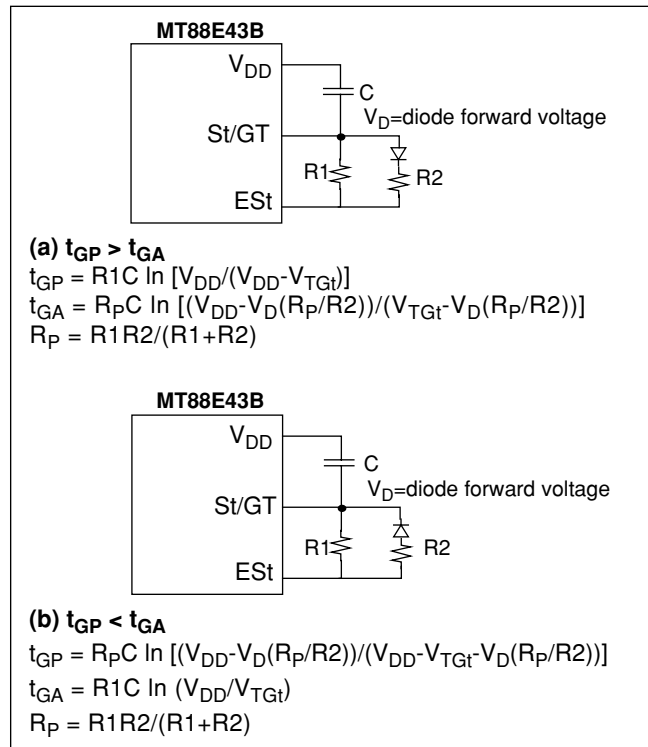
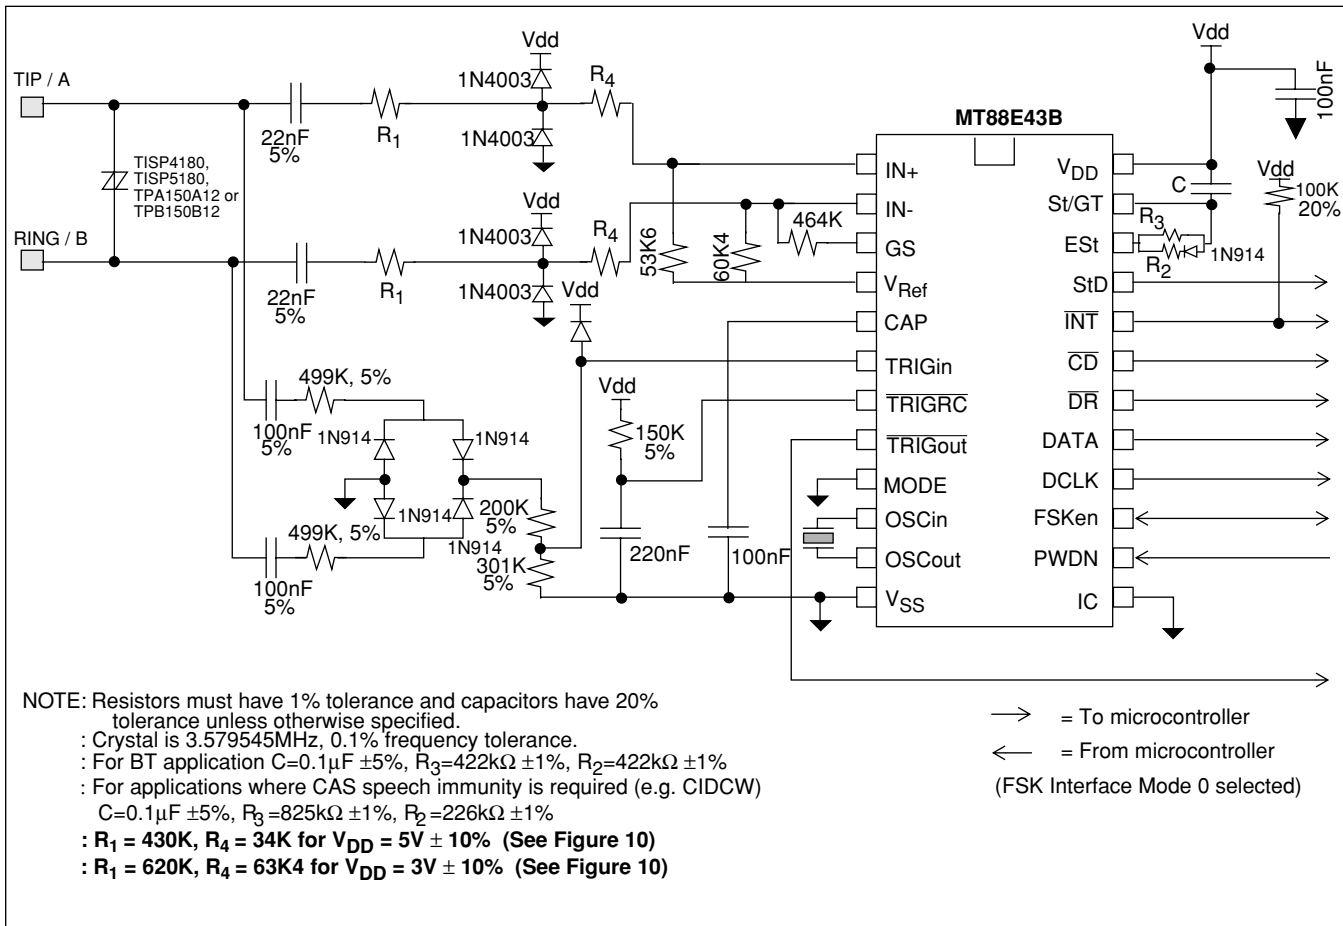
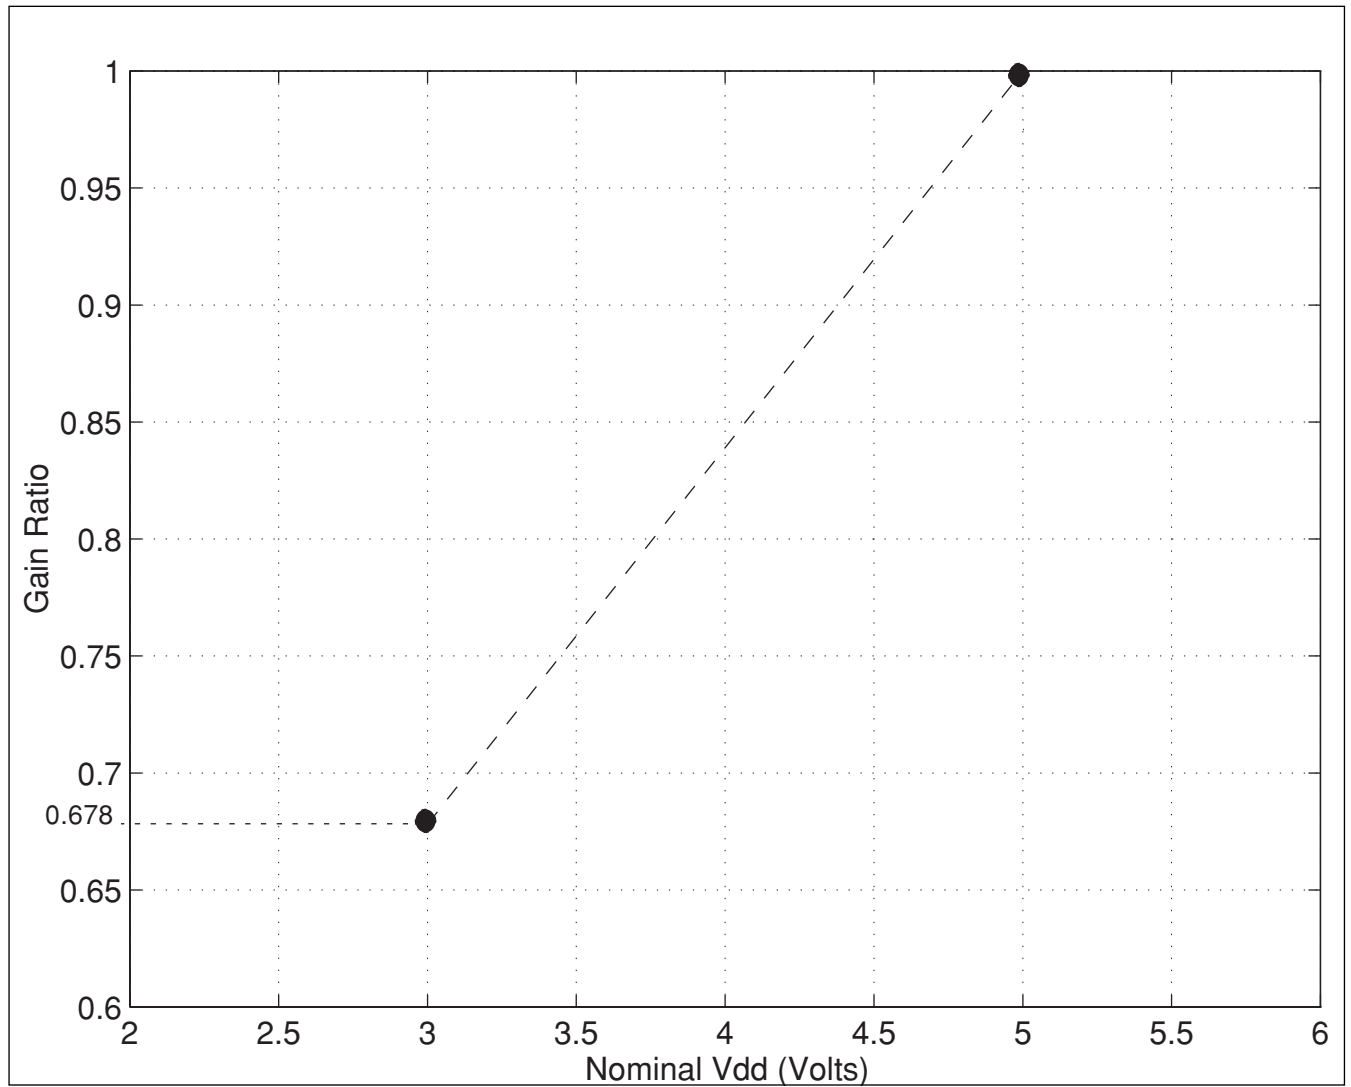

Figure 5 - Guard Time Circuits with Unequal Times
Figure 9 - Application Circuit
Figure 10: Gain Ratio as a function of Nominal Vdd
BT specifies that the idle state tone alert signal recognition time should not be less than 20ms when both tones are used for detection. That is, both tones must be detected together for at least 20ms before the signal can be declared valid. This requirement can be met by setting the t_{GP} (refer to Figure 5) to at least 20ms.
BT also specifies that the TE is required to apply a DC wetting pulse and an AC load 15-25ms after the end of the alerting signal. If $t_{ABS}=t_{DA}+t_{GA}$ is 15 to 25ms, the DC current wetting pulse and the AC load can both be applied at the falling edge of StD. The maximum t_{DA} is 8ms so t_{GA} should be 15-17ms. Therefore, t_{GP} must be greater than t_{GA} . Figure 5(a) shows a possible implementation. The values in Figures 9 and 11 ($R_2=R_3=422K$, $C=0.1\mu F$) will meet the BT timing requirements.
The circuits shown in Figures 9 and 11 are application circuits for the MT88E43B. As supply voltage (V_{DD}) is decreased, the threshold of the device's tone and FSK detectors will be reduced. Therefore, to meet the BT or Bellcore tone reject level requirements the gain of the input opamp should be reduced according to the graph in Figure 10. For example when V_{DD}=5V (+/- 10%), R₁ should equal 430k Ω and R₄ should equal 34k Ω ; and if V_{DD}=3V (+/- 10%) R₁ should equal 620k Ω and R₄ should equal 63.4k Ω . Resistors R₁ and R₄ are shown in Figures 9 and 11.
The circuit shown in Figure 9 illustrates the use of the MT88E43B in a proprietary system that doesn't need to meet FCC, DOC, and UL approvals. It should be noted that if glitches on the Tip/Ring interface are of sufficient amplitude, the circuit will falsely detect these signals as ringing or line reversal.
Note: In the application circuits shown in Figures 9 and 11, the Gain Ratio of MT88E43B opamp is
- Tip/Ring signal level. Input opamp configured to 0dB gain at V_{DD}=5V±10%, -3.38dB gain at V_{DD}=3V±10%. (see Figure 10)